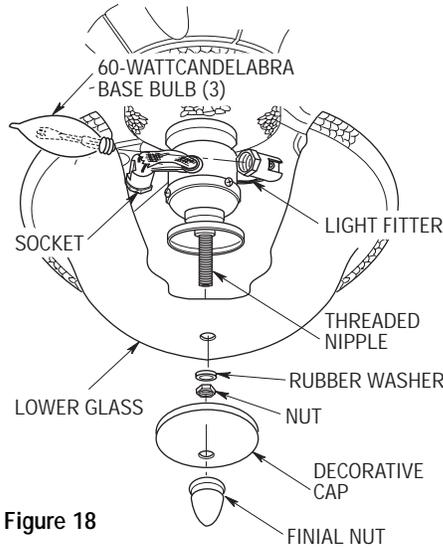

Figure 18
- 10. Screw in three 60-watt (maximum) candelabra base bulbs into the light fitter sockets (Figure 18). Remove and retain the nut and rubber washer from the light fitter threaded nipple. Place the lower glass over the threaded nipple and secure in place using the rubber washer and nut. Place the decorative cap over the threaded nipple, then screw on the finial nut and securely tighten.